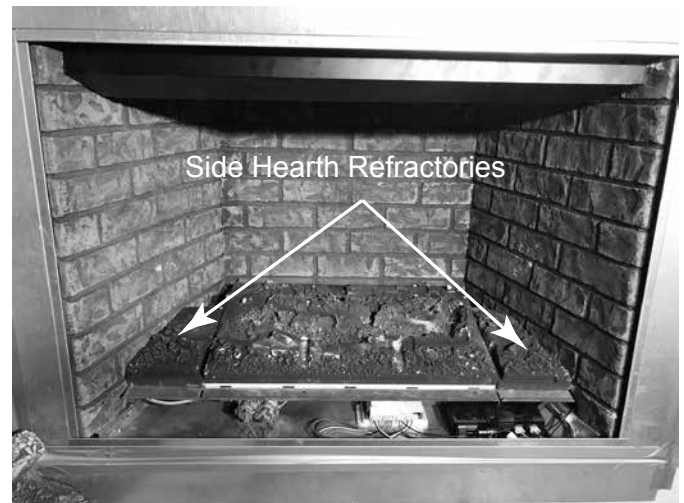

Figure 11.8
- Set Left & Right Side Hearth Refractories onto side brackets, as shown. Position side hearth refractories so that the front edge lines up with front of burner. See Figure 11.8.